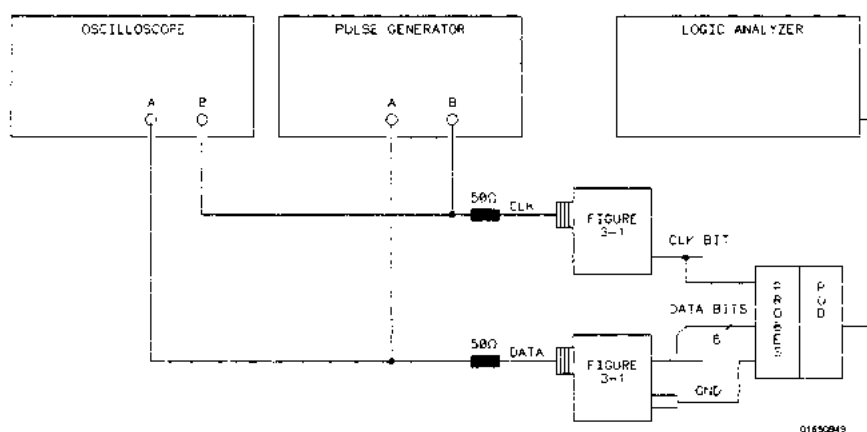

Figure 3-22. Setup for Data Test 5
1. Connect the HP 1652B/1653B and test equipment as in figure 3-22 by connecting channels 0-3 and 8-11 of the pod under test to the test connector. On the slave clock transition, the four bits of the lower byte are transferred to the logic analyzer. On the master clock transition, the four bits of the upper byte are transferred to the logic analyzer.